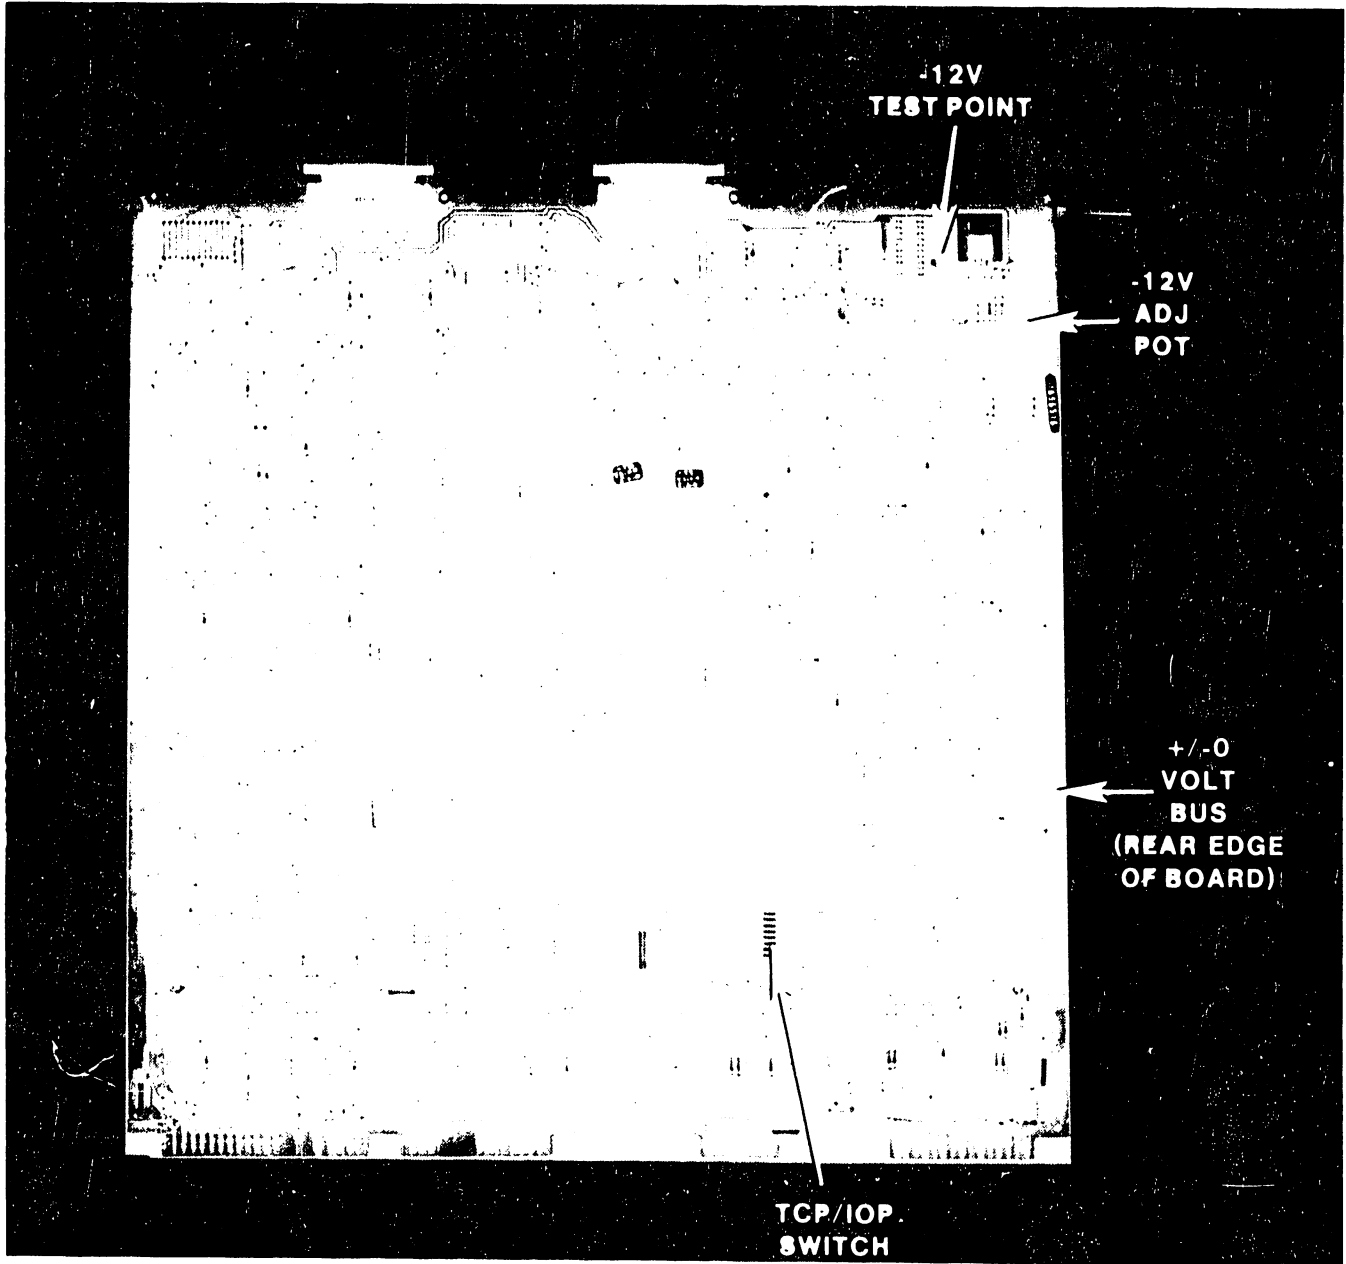

Figure K-4. 210-7826 TCP/IOP Motherboard
- a. Connect the negative lead of a digital voltmeter to the -12 Volt test point and the positive to the ± 0 Volt bus. (See figure K-4.)
- b. Adjust trimpot (figure K-4) until the meter reads -12 V ± 0.5 V.
- b. Adjust the trimpot (figure K-4) until the meter reads -12 V ± 0.5 V.